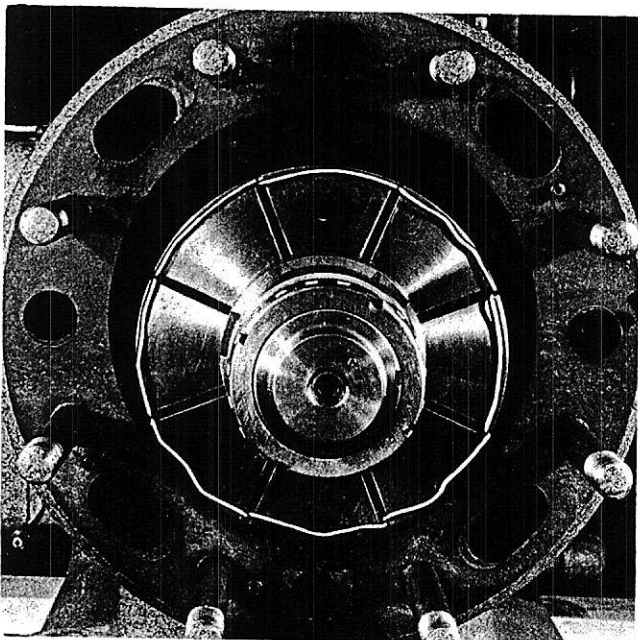

Fig. 21 Checking expansion end clearance with lead wire at rear head.
- Check for proper gasketing with a lead wire having a diameter slightly greater than the sum of the fixed end clearance, expansion end clearance, and .002" for each gasket. Hang this from the top of the rotor as shown in Fig. 21 with the wire following the periphery or outside diameter of the rotor. In compressors fitted with tapered cylinders, minimum clearance is found on the discharge side of the horizontal center line. In square cylinders, the cold clearance is uniform around the periphery of the rotor.